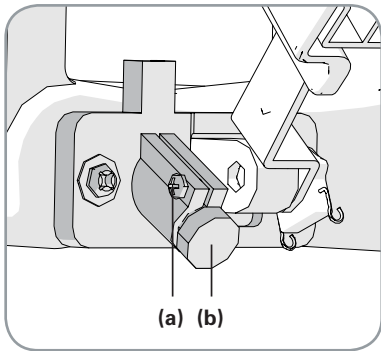

Fig. 6 (a) - Clamping screw
- Untighten the clamping screw (**Fig. 6, a**)
- Carefully rotate the laser module, (**Fig. 6, b**) until the line is parallel with the marks in the cardboard.